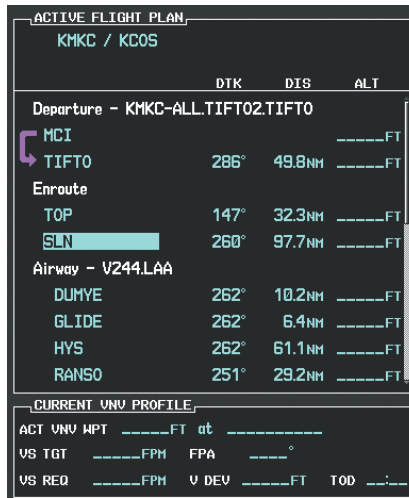

Figure 5-110 TOP Inserted into the Flight Plan
d) Press the **ENT** Key. TOP is inserted into the flight plan as in Figure 5-110.
e) With SLN still highlighted as in Figure 5-110, turn the small **FMS** Knob clockwise. The Waypoint Information Page is displayed and the **LD AIRWY** Softkey is now available.